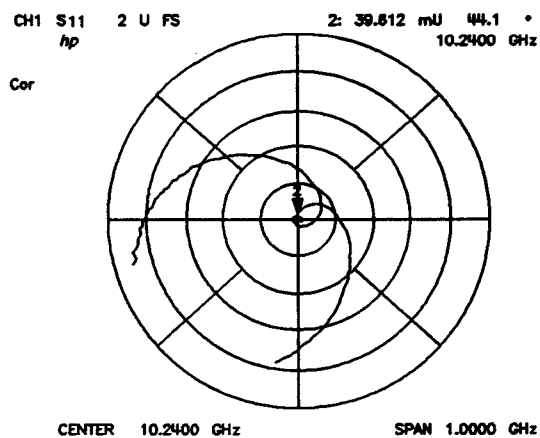

Figure 5-14. Polar Format
**POLAR** (POLA) displays a polar format (Figure 5-14). Each point on the polar format corresponds to a particular value of both magnitude and phase. Quantities are read vectorally: the magnitude at any point is determined by its displacement from the center (which has zero value), and the phase by the angle counterclockwise from the positive x-axis. Magnitude is scaled in a linear fashion, with the value of the outer circle usually set to a ratio value of 1. Since there is no frequency axis, frequency information is read from the markers.